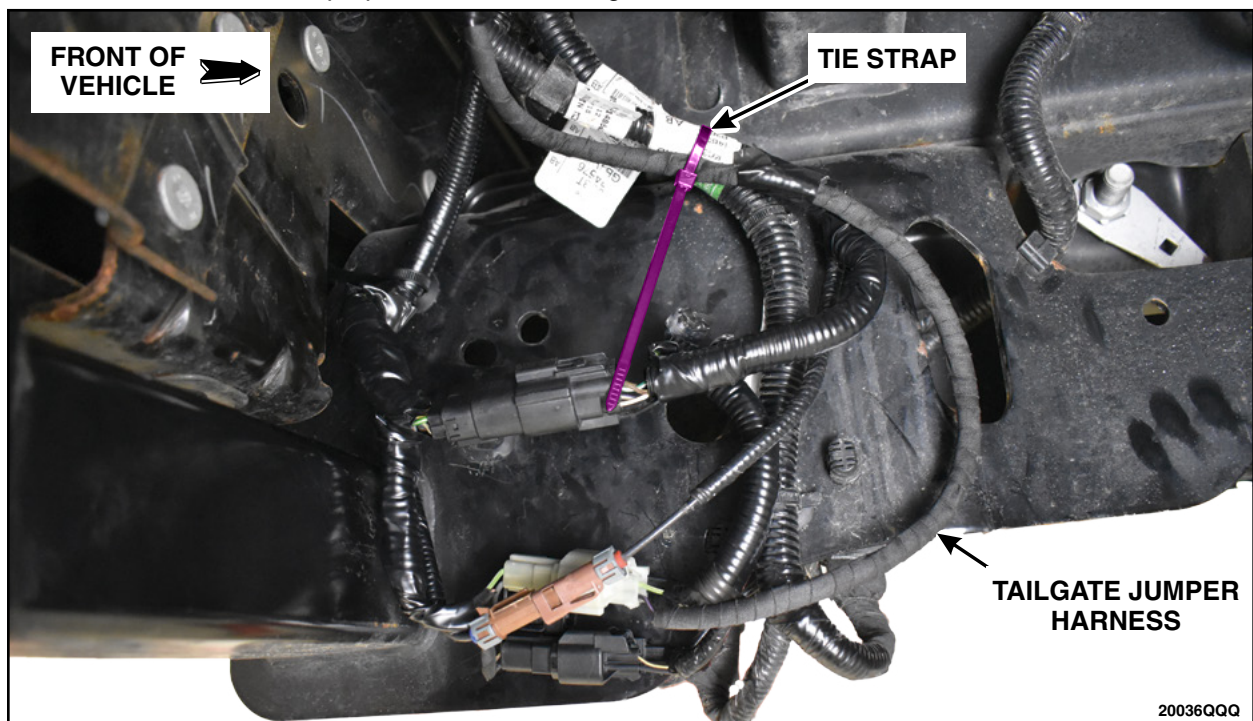

FIGURE 74
98. Secure the tailgate jumper harness using a tie strap then cut the excess length of the tie strap. Return the connectors into the proper locations. See Figures 74 and 75.